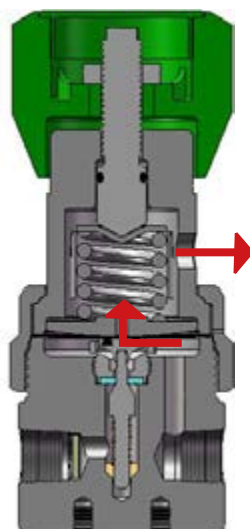

Figure 2: Regulator with closed self-venting option
- Liquids or toxic media can be captured in a closed venting system and then correctly disposed of or fed back into the circuit (closed self-venting option). (Figure 2)